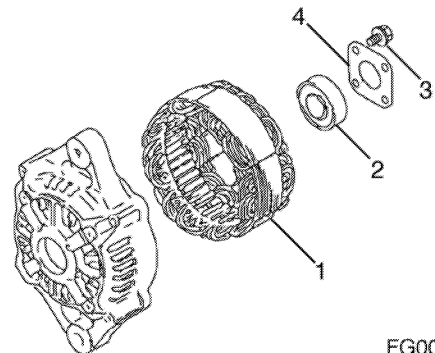

Figure 398
2. If removed, lubricate the outside diameter of a new front frame housing bearing. Press the bearing (2, Figure 398) into the front frame housing. Reinstall the plate (4, Figure 398) to the front housing. Tighten the four bolts (3, Figure 398).
3. Position the stator assembly (1, Figure 398) on the front frame housing studs.